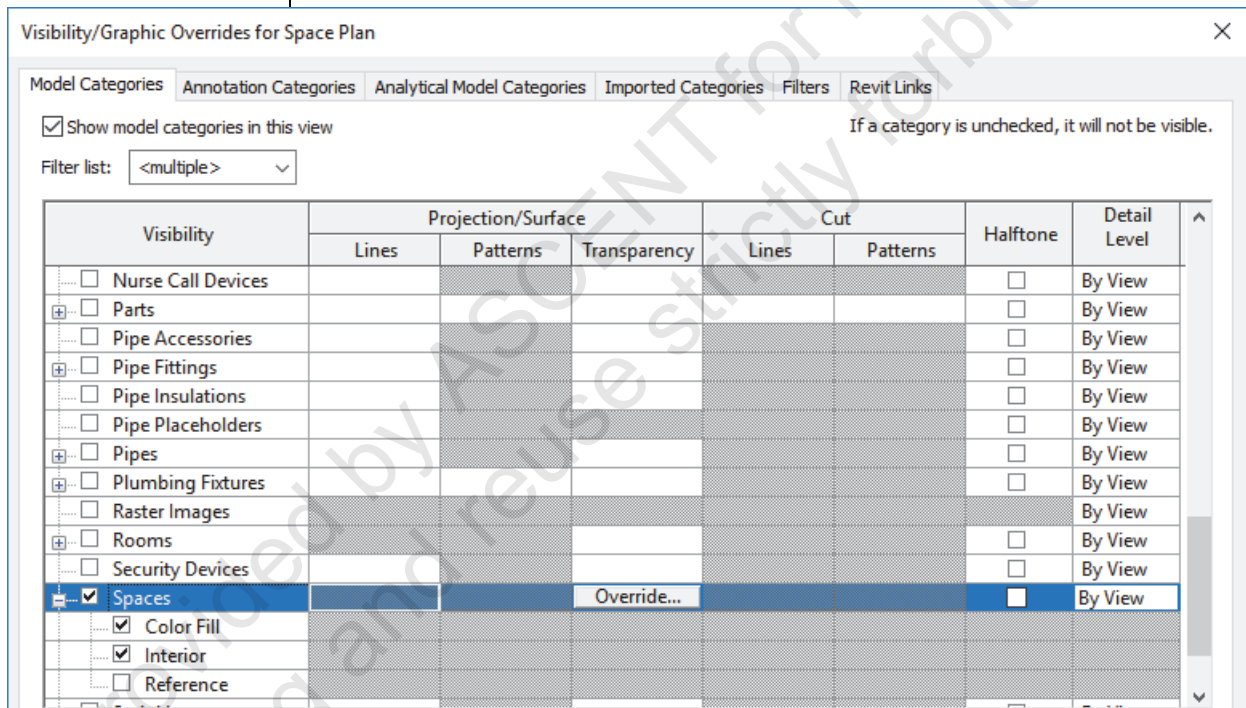

Figure 1–152
9. Scroll down, select and expand *Spaces*, and select **Interior**, as shown in Figure 1–152.